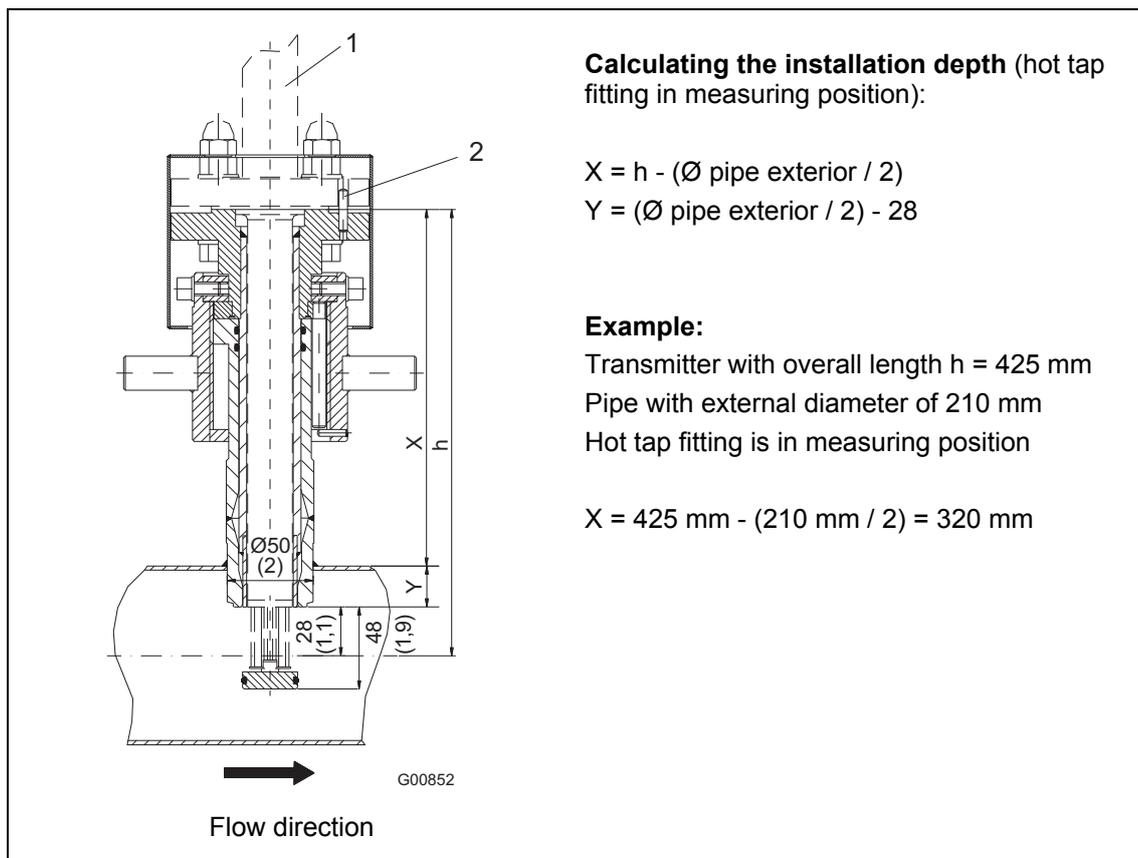

Fig. 12: Dimensions in mm (inches) hot tap fitting in measuring position
- The adapter centering pin must be aligned with the pipe axis in the flow direction (outflow side, behind the measuring point), see Fig. 12.